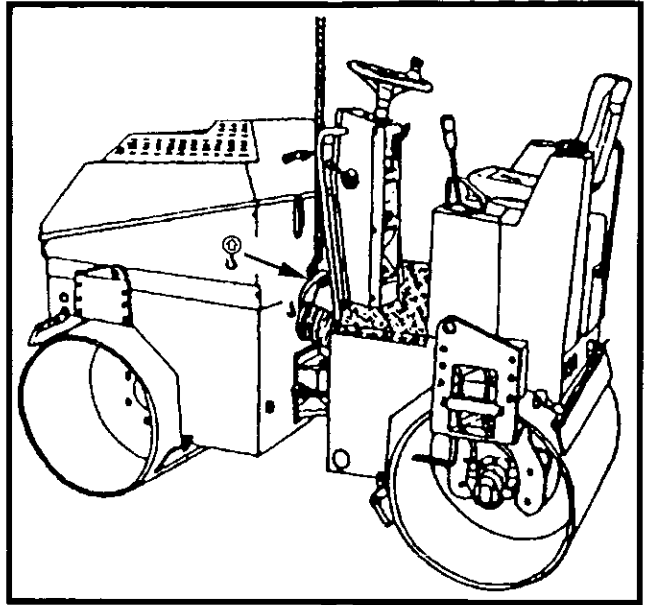

Figure 4-23 Recommended Lift Point
3. Connect appropriate lifting tackle to the speical lift point marked with the symbol , (Figure 4-23).